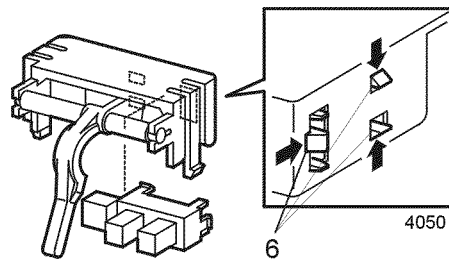

Figure 3 Stack Full Sensor
6. Release the three locking tabs and remove the sensor from the holder (Figure 3).